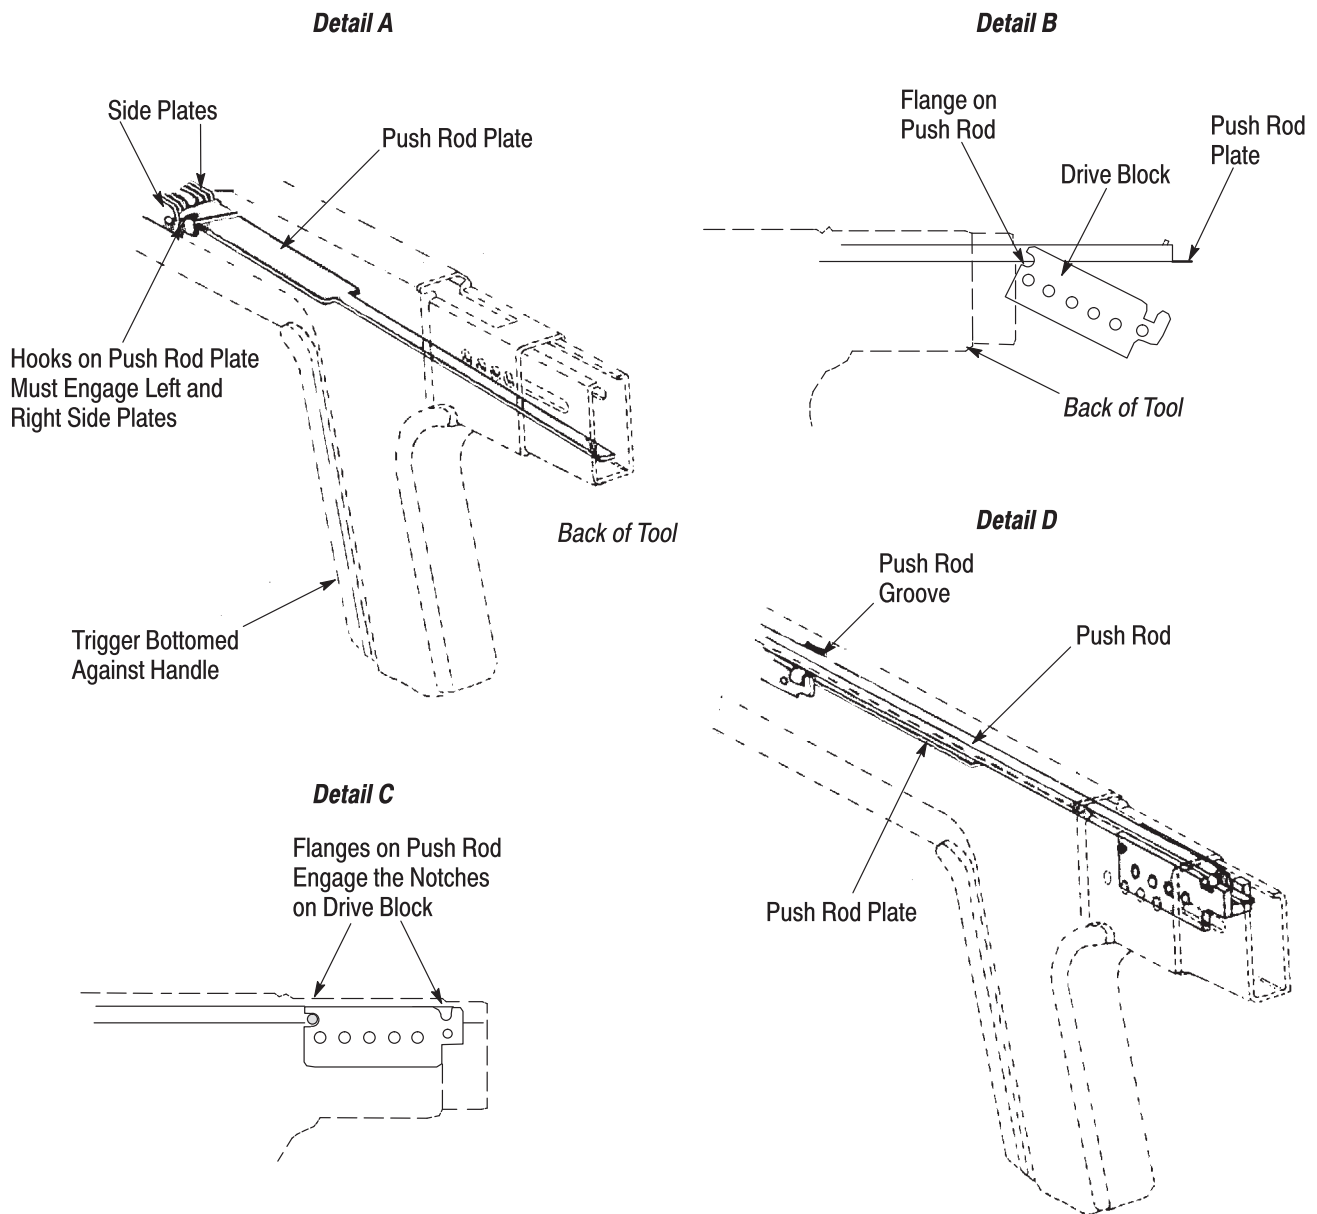

Figure 19
- 1 Squeeze and hold the trigger until it bottoms against the handle. *Do not release the trigger.* See Figure 19, Detail A.
- 2 Insert the push rod plate, wide end first, into the back of the tool. Be sure that the hooks on the push rod plate engage in the left and right side plates. See Figure 19, Detail A.
- 3 Slide the push rod along the top of the push rod plate until the flange on push rod is even with the back of the tool. See Figure 19, Detail B.
- 5 Insert the assembled push rod, drive block, and push rod plate in the back of the tool so that the front end of the push rod enters the push rod groove. See Figure 19, Detail D.